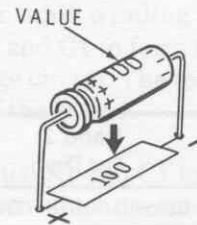

Figure 3
- When you install electrolytic or other tubular capacitors, always position each capacitor so the value is facing away from the circuit board (see Figure 3). Be sure to observe the correct polarity when you install electrolytic capacitors (as you will be directed in the steps). Other, non-polarized, capacitors should be installed so you can read the values in the same direction as the printing on the circuit board.